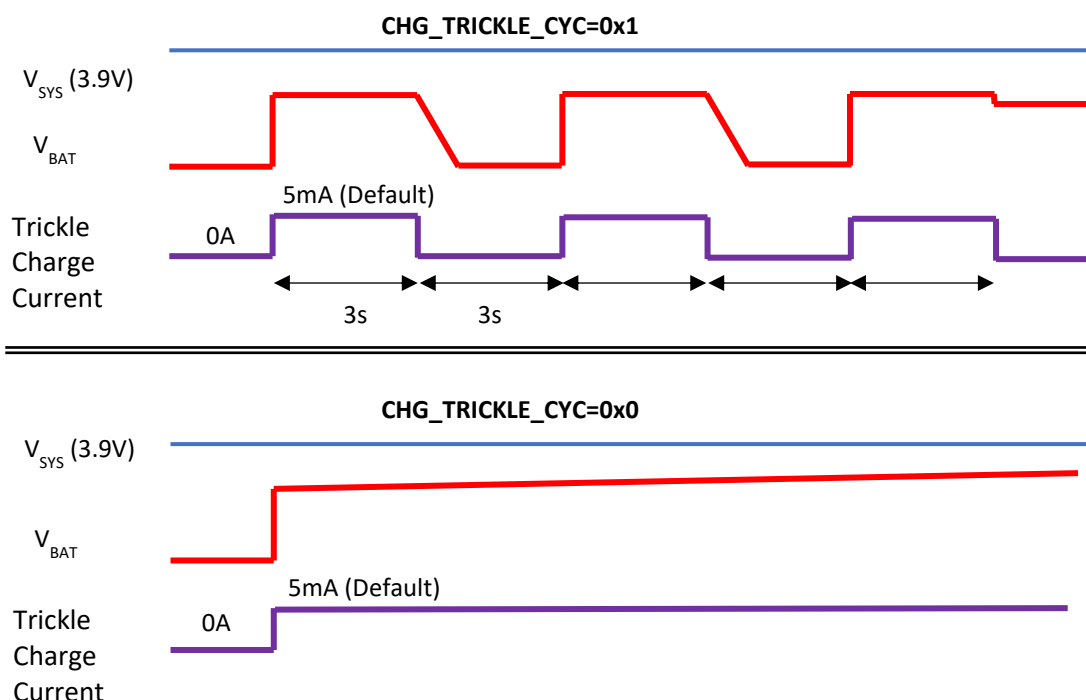

Figure 12: Trickle Charge Behavior
- When $V_{BAT} < 2.2$ V, the low-level current is called the trickle charge current. Continuous operation mode and periodic operation mode can be selected by the $CHG_TRICKLE_CYC$ bit. And trickle charge current setting is also selectable by the $CHG_TRICKLE$ bits. The default setting is periodic operation mode with 5mA setting, means 2.5mA average trickle charge current, see Figure 12.